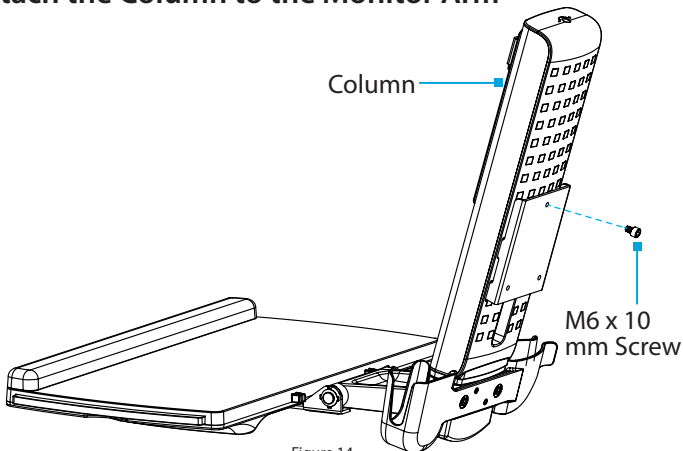

Figure 14
1. Thread an **M6 x 10 mm Screw** into the **Mounting Hole**, located in the top of the **Plate** on the back of the **Column**. (Figure 14)